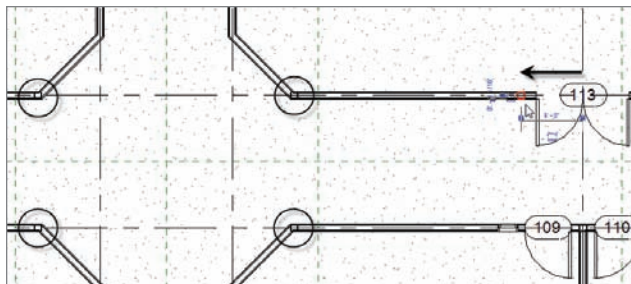

FIGURE 8.32 Making adjustments like moving a column will happen quite a bit.
4. Repeat the same procedure for the other two columns (see Figure 8.32).
5. Zoom into the door shown in Figure 8.32.